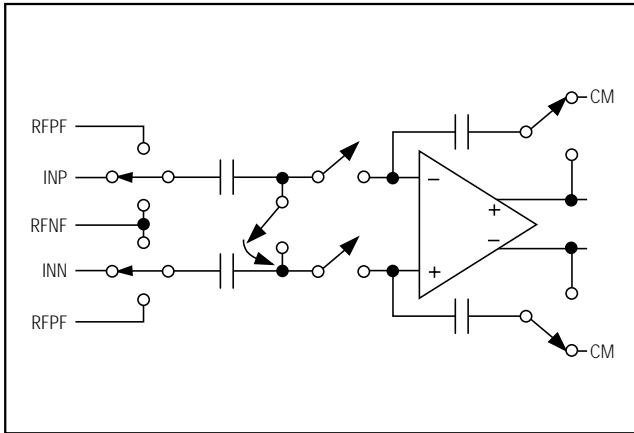

Figure 2. Simplified MDAC Architecture
Fully differential switched-capacitor circuits (SC) are used for both the reference and analog inputs (Figure 2). This allows either single-ended or differential signals to be used in the reference and/or analog signal paths. The signal voltage on these pins (INP, INN, RFP\_, RFN\_) should never exceed the analog supply rail, AVDD, nor fall below ground.